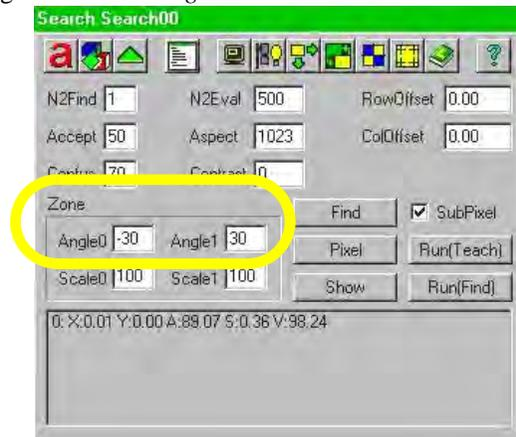

Figure 5-50—Set values in Zone fields
- 2g) On the Search Search dialog, set values in the Zone fields so that Angle0 is -30 and Angle1 is 30. See Figure 5-50.